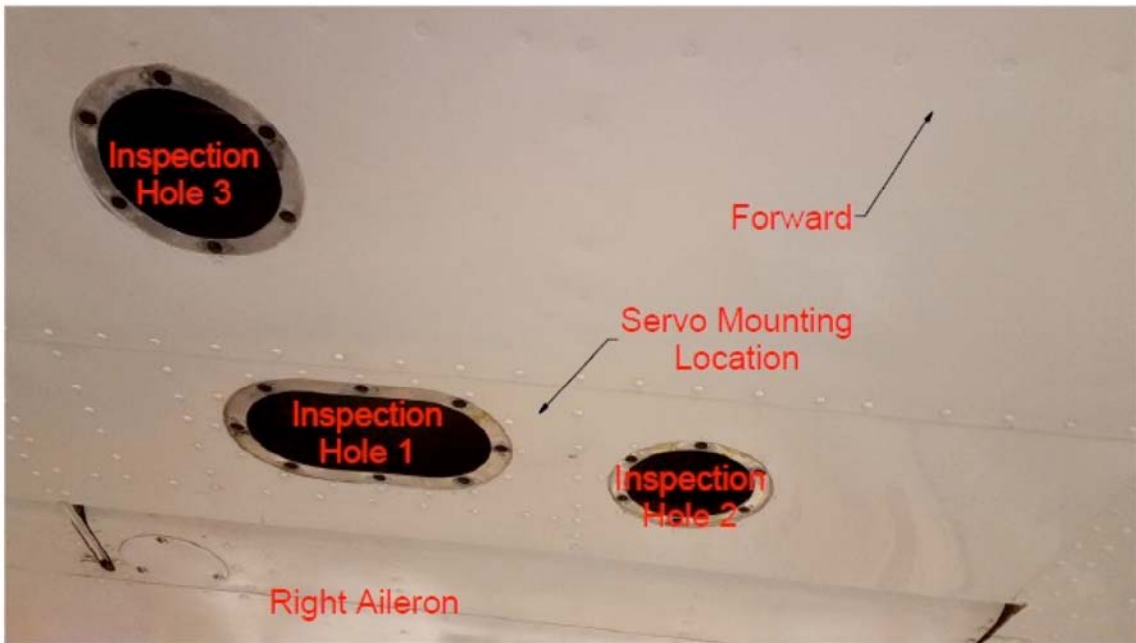

Figure 2-1
- i) The roll servo will be mounted in the right wing just forward of the inboard end of the aileron. Figure 2-1 shows the roll servo mounting location from below the right wing.